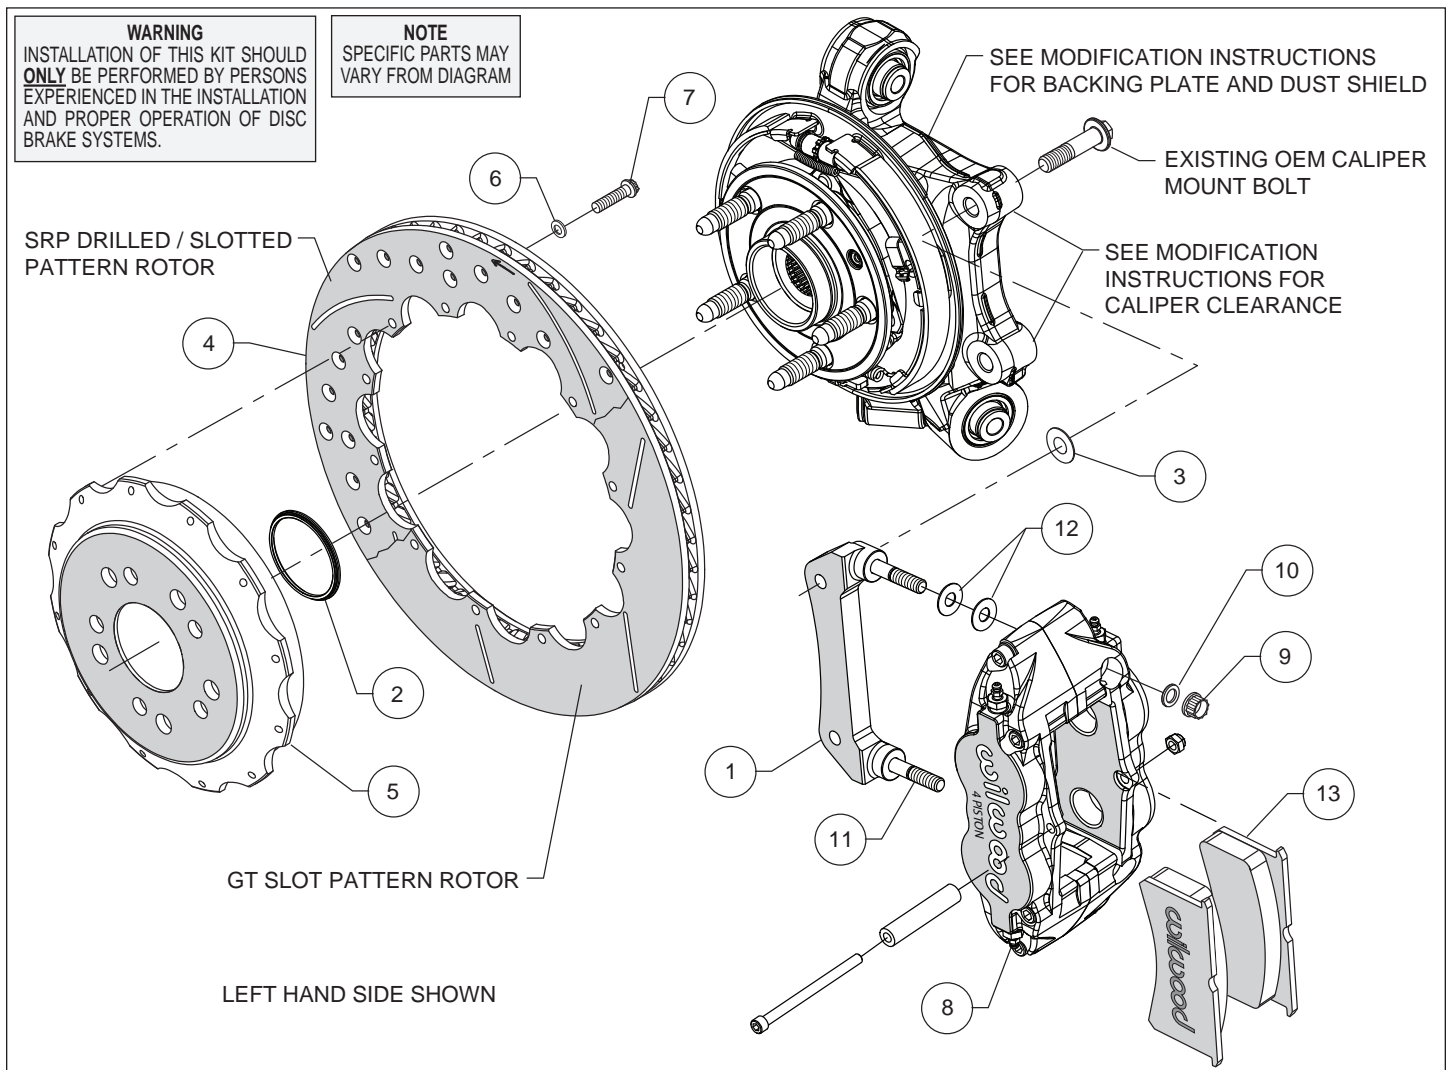
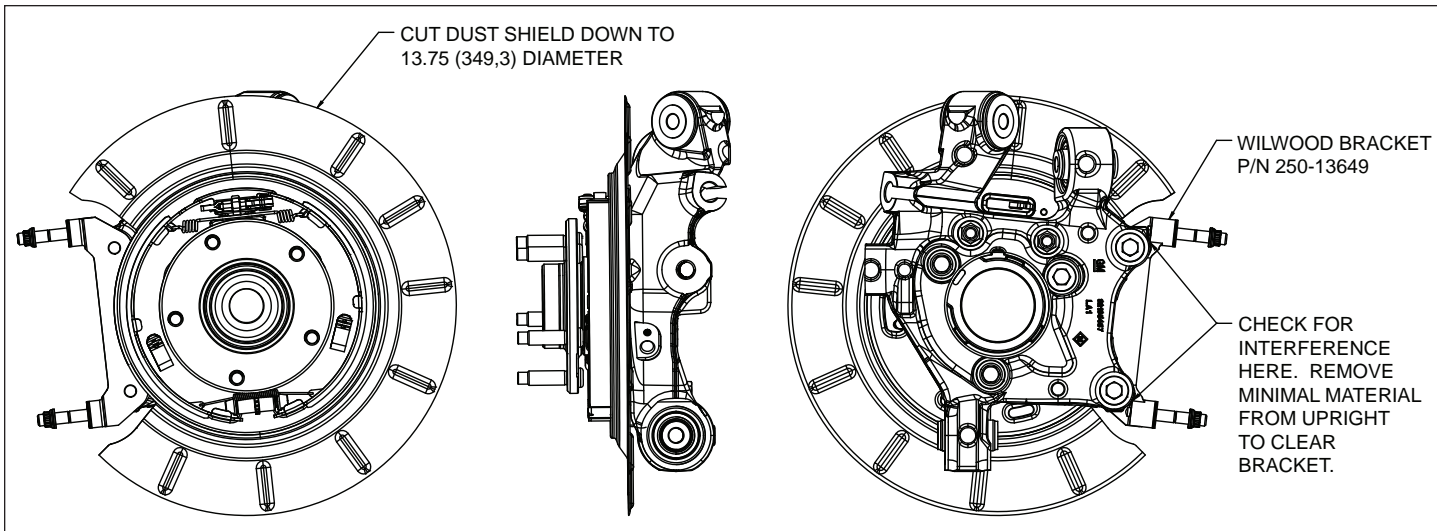
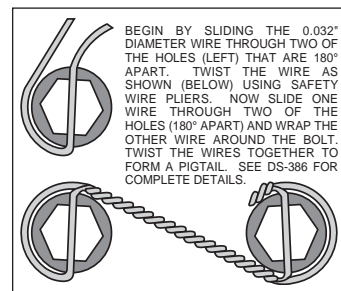

Figure 1. Typical Installation Configuration
Figure 3. Backing Plate / Dust Shield / Caliper Mounting Tabs Modifications
Figure 4. Safety Wire Diagram
- The rear backing plate/dust shield and OE caliper mounting tabs needs to be modified as shown in Figure 3 to clear the new Wilwood rotor and caliper mounting bracket (1). **NOTE:** It is recommended that the backing plate be removed before modification, and the modifications be performed by a qualified machine shop. After backing plate removal, cut the dust shield to 13.75" diameter as shown in Figure 3. Temporarily mount the caliper mounting bracket as shown in Figures 1 and 3. Figure 3, Examine the fit of the bracket against the OE caliper mounting tabs and remove just enough material so that the bracket mounts flush.
### Assembly Instructions (numbers in parenthesis refer to the parts list and Figure 1 on the preceding pages):
- The caliper mount bracket (1) should initially be installed with clean, dry threads on the mounting bolts. Orient the bracket as shown in Figure 1, and install using OEM caliper mount bolts. Initially place one .033" thick shim (3), on each bolt between the bracket and upright, Figure 1. Temporarily tighten the mounting bolts. **NOTE:** The bracket must fit squarely against the mount bosses on the upright. Inspect for interference from casting irregularities, machining ridges, burrs, etc. Later, after the caliper alignment has been checked, the mount bolts will be secured using red *Loctite*® 271.
- Orient the rotor (4) and the hat (5) as shown in Figure 1 and Photo 1. Attach rotor to hat using bolts (7) and washers (6). Using an alternating sequence, apply red *Loctite*® 271 to the threads and torque bolts to 140 **in-lb**. For an added measure of security, the bolts may be safety wired using standard 0.032 inch diameter stainless steel safety wire as shown in Figure 4. Please refer to Wilwood's data sheet DS-386 (available at [www.wilwood.com/Pdf/DataSheets/ds386.pdf](http://www.wilwood.com/Pdf/DataSheets/ds386.pdf)) for complete safety wire installation instructions.
- Slide the rotor registration adapter (2) onto the axle register on the axle hub with the smaller O.D. facing outward, Photo 2. Align the correct hole pattern in the hat with the stud pattern on the axle hub and slide into place, Figure 1. **NOTE:** The hat must fit flush against the axle hub flange or excessive rotor run out may result. Install three lug nuts (finger tight) to keep the hat/rotor assembly in place while continuing with the installation.
- Lubricate the caliper mounting studs (11) with lightweight oil. Initially place two .035" thick shims (12) on each stud as shown in Figure 1 and Photo 3. Mount the caliper (8) onto the bracket (1) using lock nuts (9) and washers (10), Figure 1. Temporarily tighten the lock nuts and view the rotor through the top opening of the caliper. The rotor should be centered in the caliper, Photo 4. If not, adjust by adding or subtracting shims (3) between the bracket and the upright. Once the caliper alignment is correct, remove the bracket mounting bolts one at a time, apply red *Loctite*® 271 to the threads, and torque to 65 ft-lb.